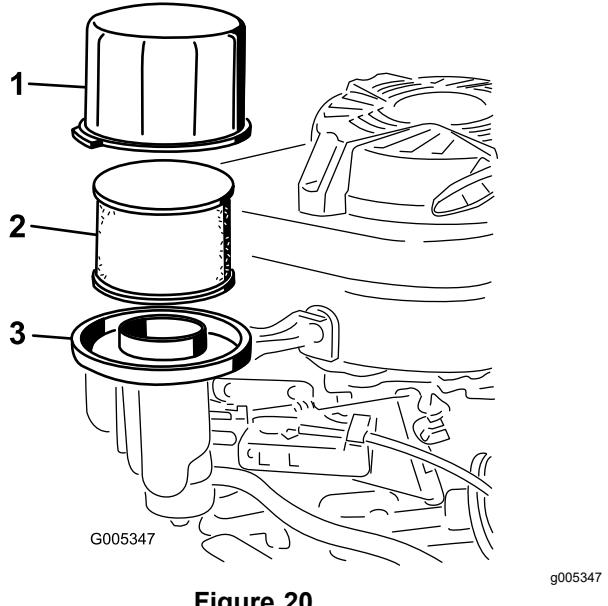

Figure 20
3. Remove the cover and clean it thoroughly (Figure 20).
4. Remove and the foam pre-filter and the paper-air filter from the air-filter base (Figure 20).